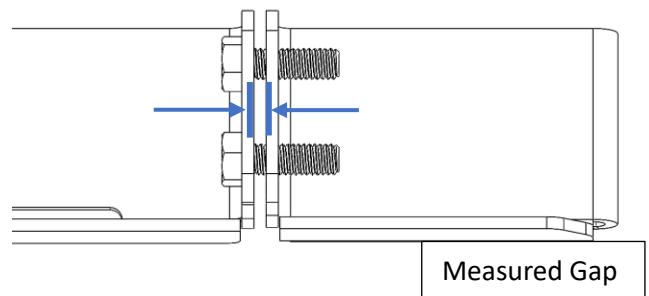
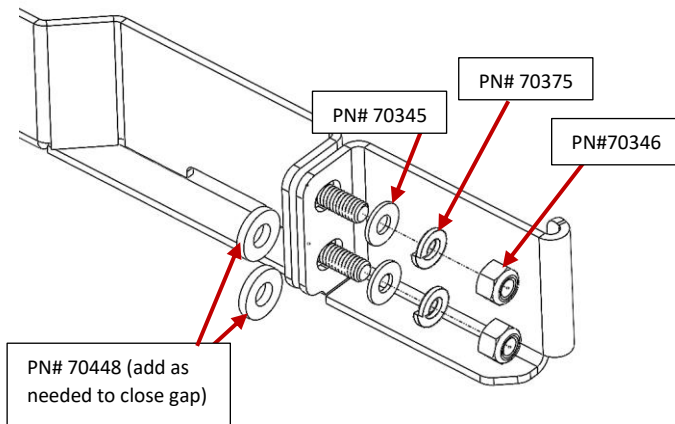

Figure 2: Tension Bar Gap
Figure 3: Tension Bar Bracket Hardware
11. Loosely bolt short hook bracket to tension bar using two (2) 5/16" Washers [PN 70345], two (2) 5/16" Nuts [PN 70346], and two (2) 5/16" split washer [ PN 70375] (Figure 2 and Figure 3).